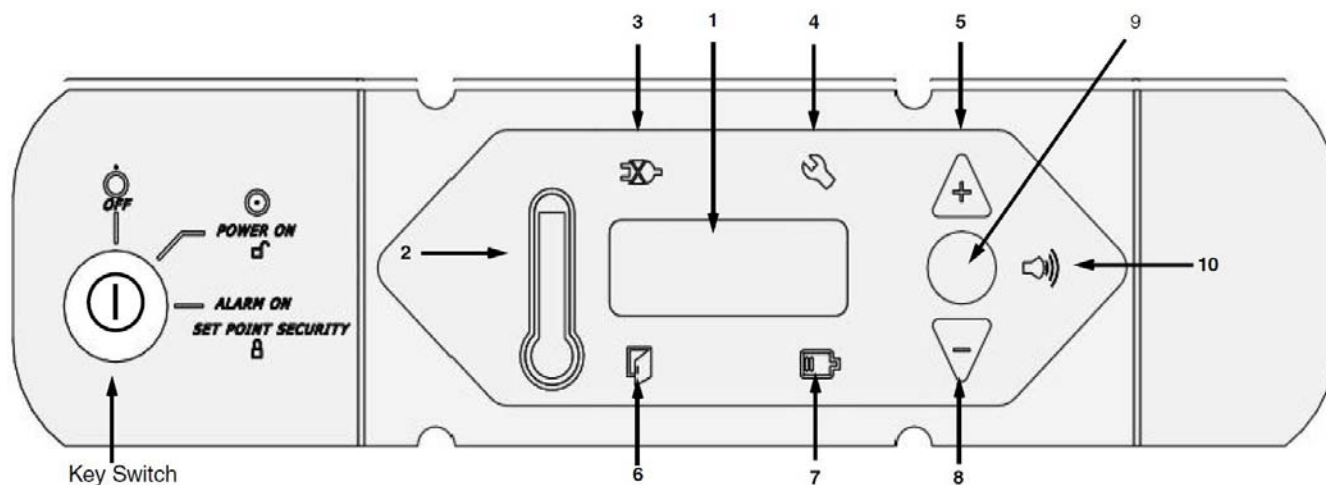

Figure 1. Laboratory Freezer Control Panel
The control panel is located on the top right side of your freezer. You can use the three pushbuttons (#5, #8, and #9 in Figure 1) to change the temperature display (#1) or to adjust temperature and alarm setpoints. The thermometer display (#2) provides a quick visual indicator of current cabinet temperature and alarm conditions.
3. When simulated temperature exceeds the warm alarm setpoint, the alarm sounds and the alarm icon on the control panel illuminates (#10 in Figure 1).